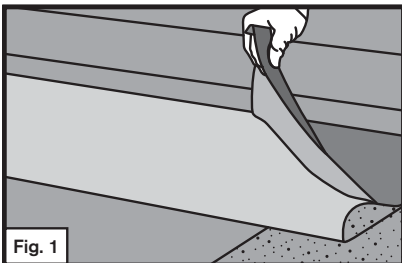

Fig. 1
Step 5. Fold the aligned sheet back half way exposing the release liner. See Fig. 1
Step 6. Peel release film at a 45° angle in a constant motion, while firmly holding the half of the sheet that is in contact with the roof in place as the liner is removed. See Fig. 1